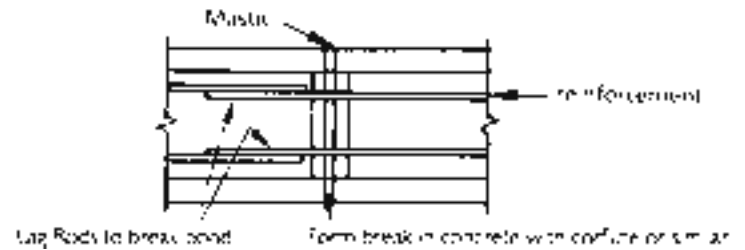

**Figure 17** Differential settlement of footings
- Differential settlement of footings (**Figure 17**).